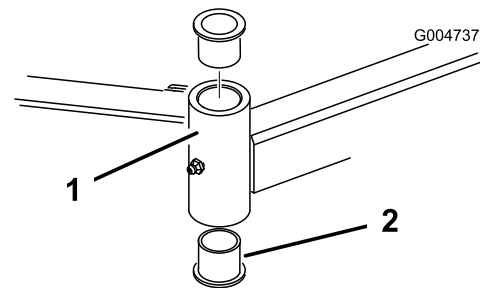

Figure 83
4. Insert a pin punch into the top or bottom of the mounting tube and drive the bushing out of the tube (Figure 83). Also drive the other bushing out of the tube. Clean the inside of the tubes to remove dirt.